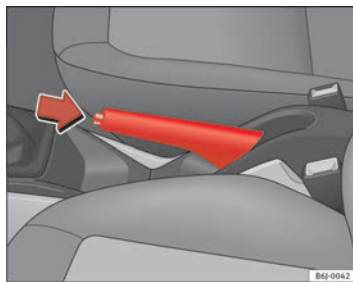

Fig. 110 Handbrake between the front seats
- Pull the handbrake lever up firmly ⇒ **fig. 110**.
- Pull the lever up slightly and press the release knob in the direction of the arrow ⇒ **fig. 110** and guide the handbrake lever down fully ⇒ .